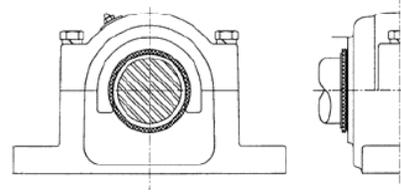

Figure 4c
8. Move the installation tool(s) to the top position to facilitate the assembly of the housing cap to the base (Figure 4c).